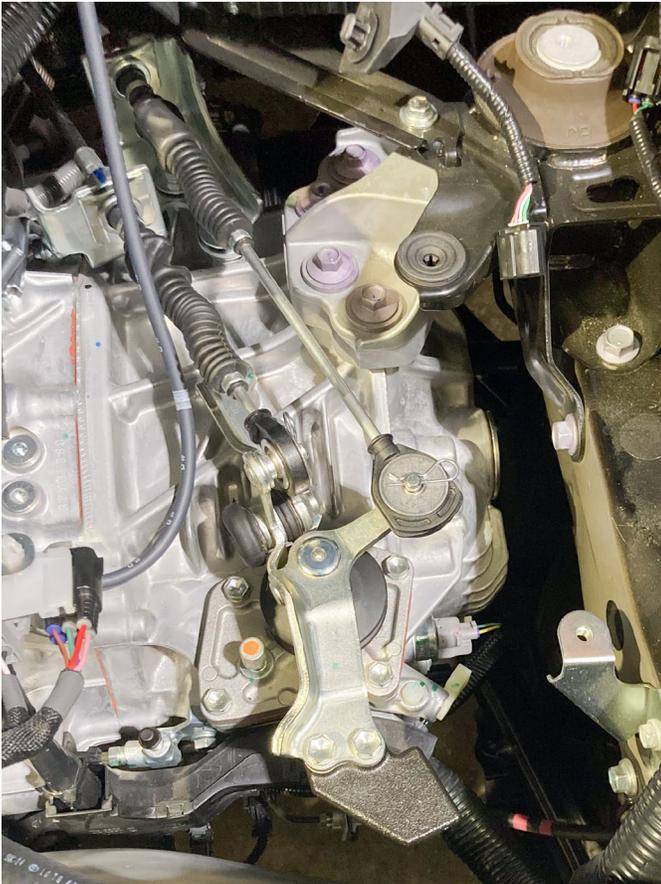
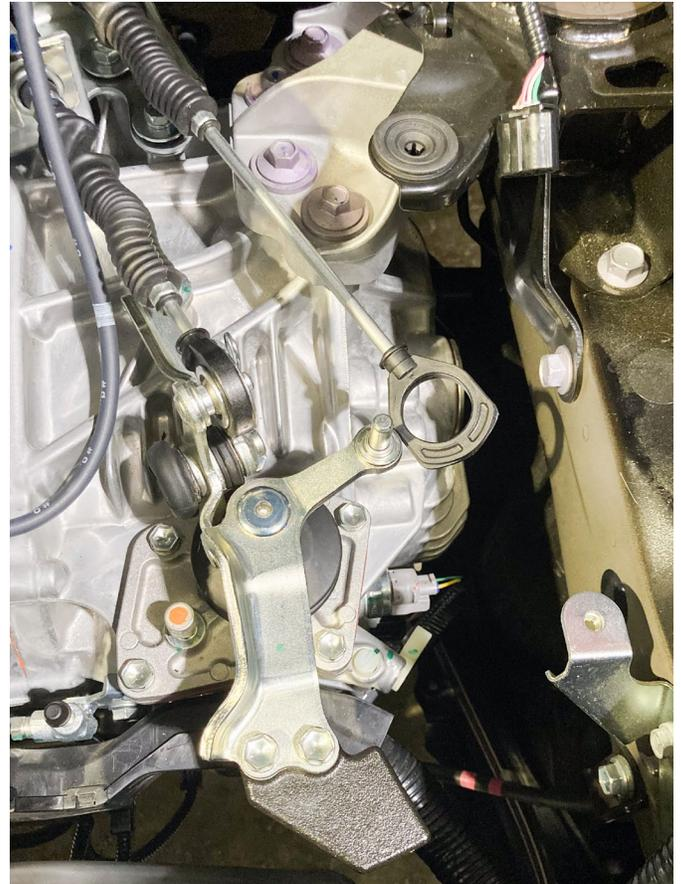

Figure 6
Figure 7
6. Remove the shifter bushing from the large cable head. (Fig 6 and Fig 7)